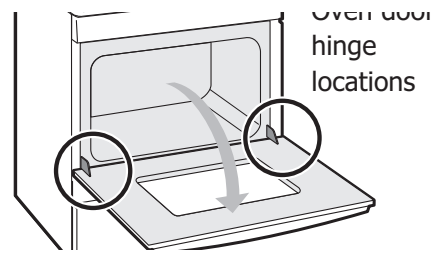

Figure 10: Door hinge location
1. Open oven door completely, horizontal with floor (See Figure 10).
3. Fully open the oven door, horizontal with floor (See Figure 10).